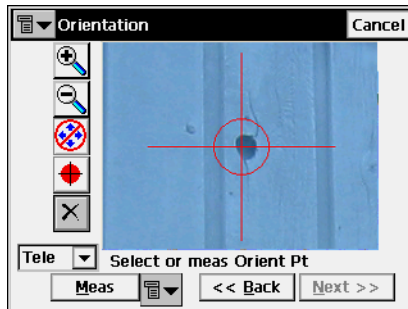

Figure 6-46. Select Orientation Point
- The Pan  button enables drag control of the image. When disabled , tap on the image in a rough area of where the orientation point is located. The image will zoom to this point and show a crosshair (Figure 6-46).
- *Tele* (telescope) is the default zoomed-in view of the crosshair (Figure 6-46)